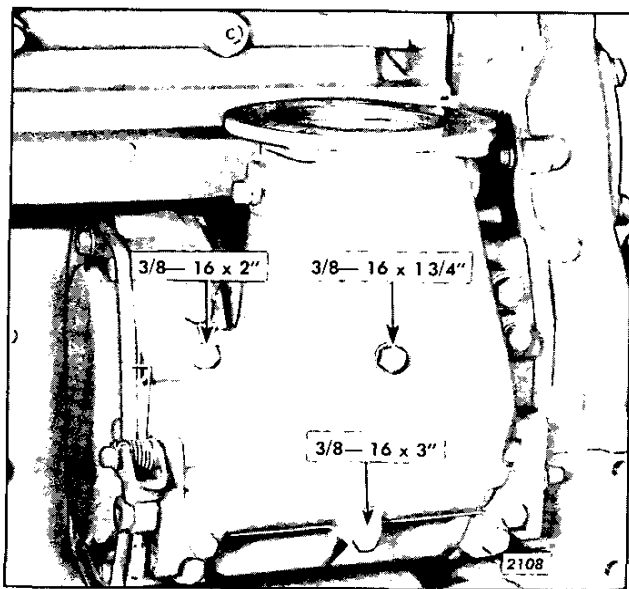

Fig. 3 - Location of Air Shutdown Housing Mounting Bolts (In-Line Engines)
- a. Install and finger tighten the six attaching bolts shown in Fig. 3.